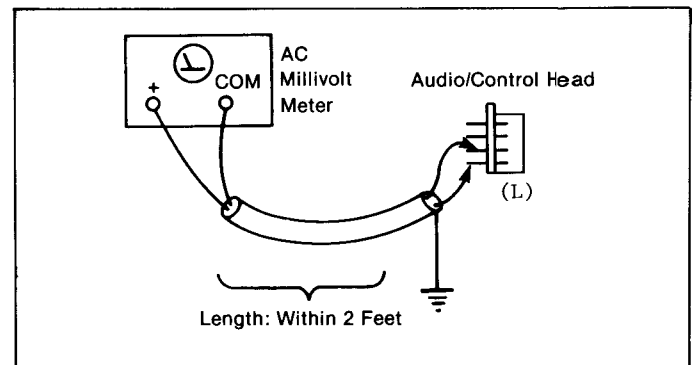

Fig. E4
- Connect the AC Millivolt Meter as shown Fig. E4.